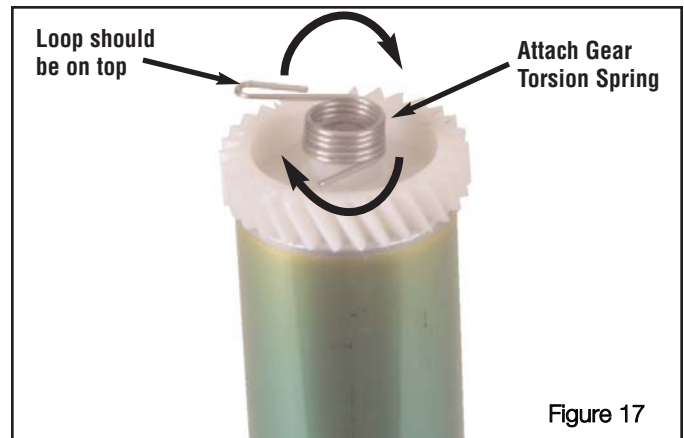

Figure 17
2. Install the Gear Torsion Spring to the new Drum, on the small gear side making sure that the loops are to the outside of the Drum. Twist the Gear Torsion Spring clockwise to secure to the Drum. See Figure 17.